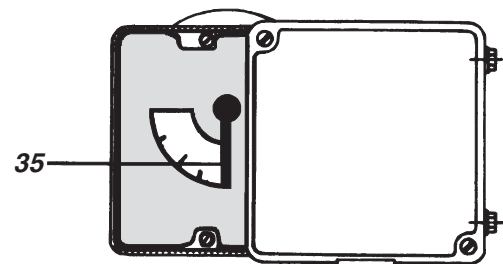

Fig.20: Attachment of pointer **35** and transparent cover plate
- m) Attach the transparent cover plate (see Fig. 20).